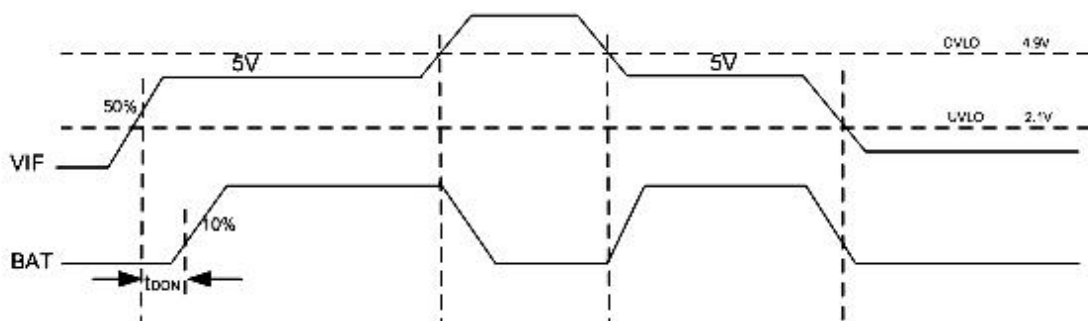

Figure 4
Dynamic Characteristics: see figure 4
2. t_{DON} and t_R are defined in Figure 4.